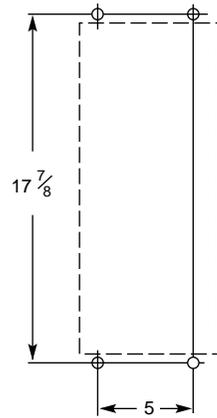

Figure 2-10. Template for Wall Mounting
- d. Using Figure 2-10 as a guide, mark the mounting screw locations on the plywood where you plan to install the Model 2800A.